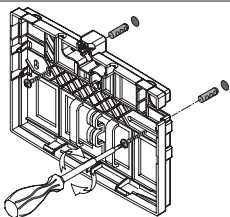

Figure 3
- Attach the wall bracket to the wall using screws and appropriate wall plugs (Figure 3).